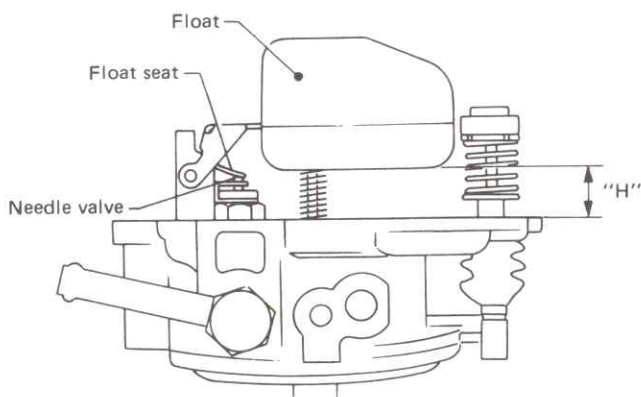

Fig. 3.17 Top float position (Sec 13)
- 15 With the top cover inverted and horizontal, measure the distance H from the top face of the float to the inner face of the cover. If it is not as specified, adjust by bending the float seat (photo) and Fig. 3.17.